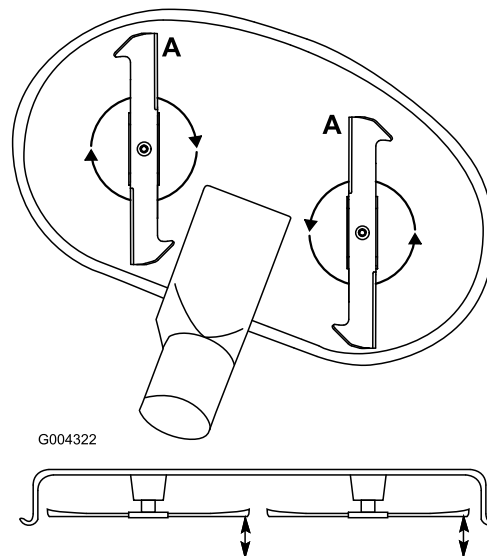

Figure 49
1. Rotate the blades until the ends face forward and backward (Figure 49). Measure from a level surface to the cutting edge, position A, of the blades (Figure 49). Note this dimension.